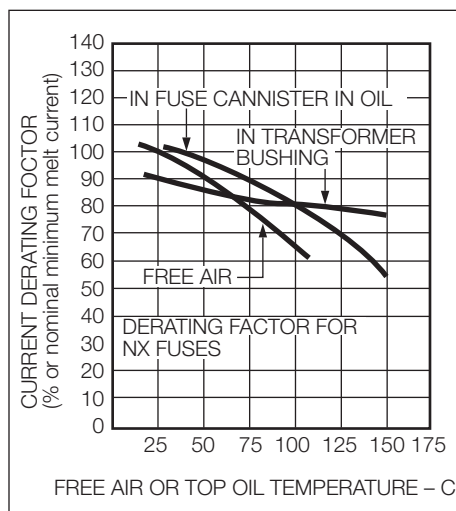

Figure 12. Derating curves for NX fuse application at raised ambient temperatures.
To determine the proper NX fuse size for carrying desired current and percent overload available at raised ambient temperatures, the minimum-melt current must be derated. The curves in Figure 12 show the derating factors for NX fuse applications at raised ambient temperatures in air, in canisters suspended in oil, and in transformer bushings. (These curves are based on a six-hour melting time, not the maximum pre-melt current.)
1. On Figure 12, draw a vertical line at 75° C to intersect the free-air curve.